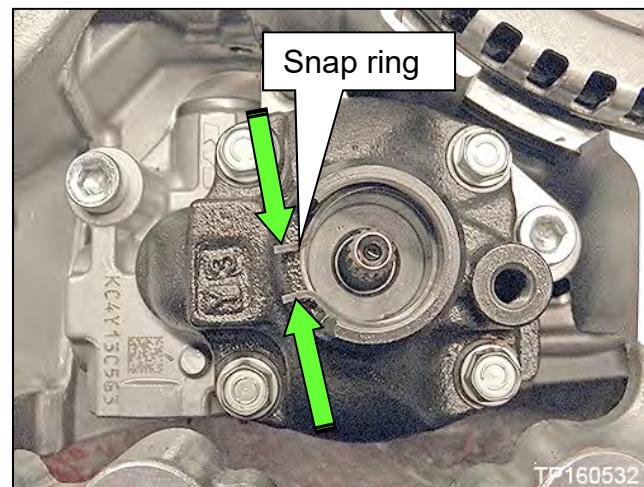

Figure 43
25. Remove the oil pump snap ring (Figure 43).